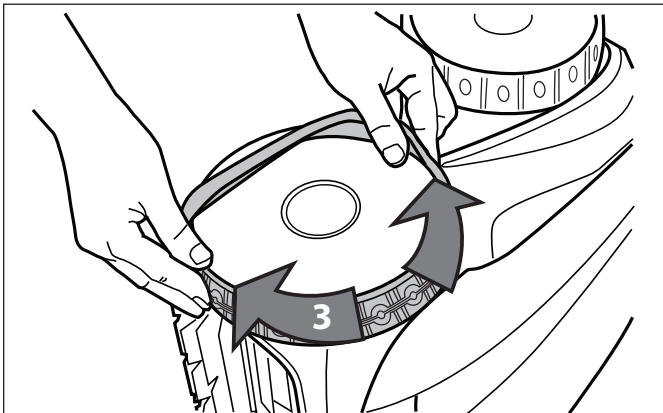

Figure 35. Work the Tire On Around the Wheel
5. Work the tire onto the wheel and verify the rib of the tire is positioned properly within the groove of the wheel (Figure 35).